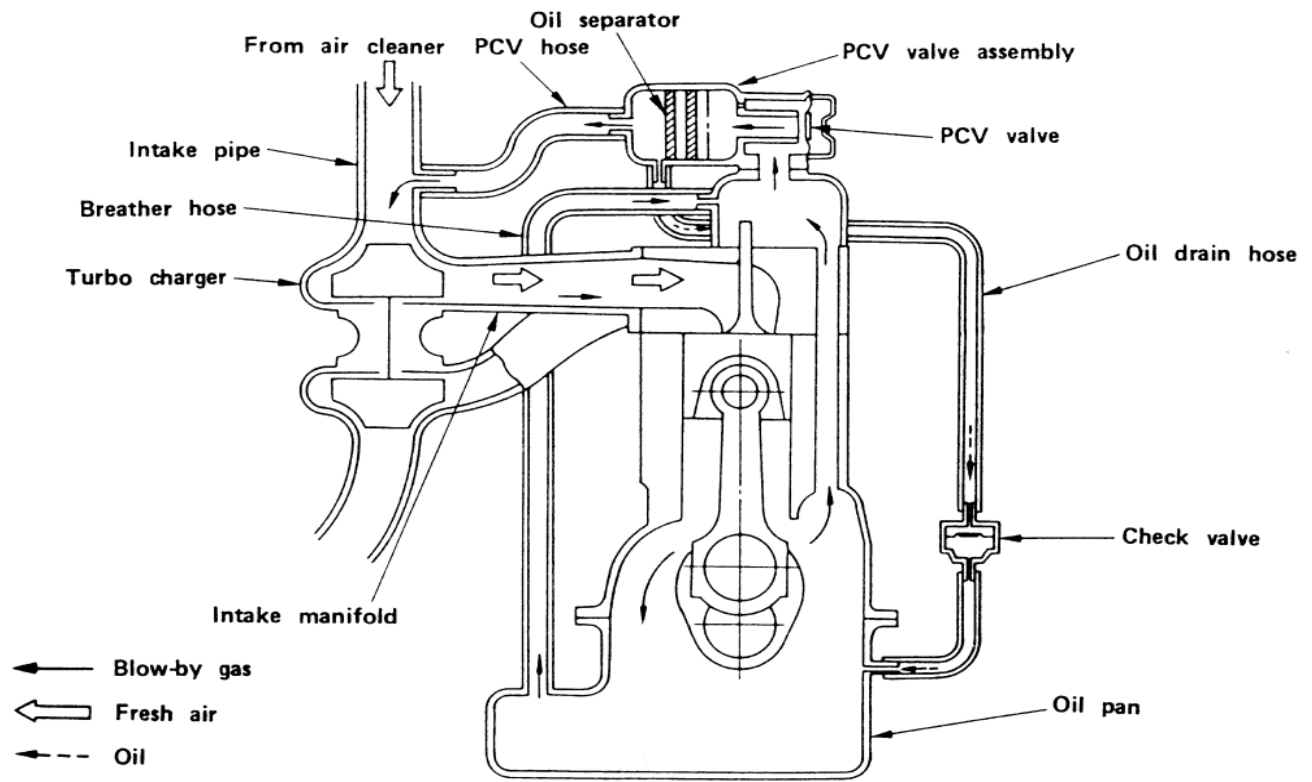

Figure 8 – Engine PCV, Autozone.com (2019)
Positive Crankcase Ventilation (PCV) – The PCV system helps to reuse any of the air/fuel mixture that was able to make its way past the piston rings and down into the crankcase to cause problems. It uses a valve to remove the mixture and add it back into the intake manifold to be used again. This system is mainly used for idling or slow speeds where the pressure is lower. An image of this system is shown by Figure 8 in the bibliography.
- **Figure 8** – Engine PCV system diagram